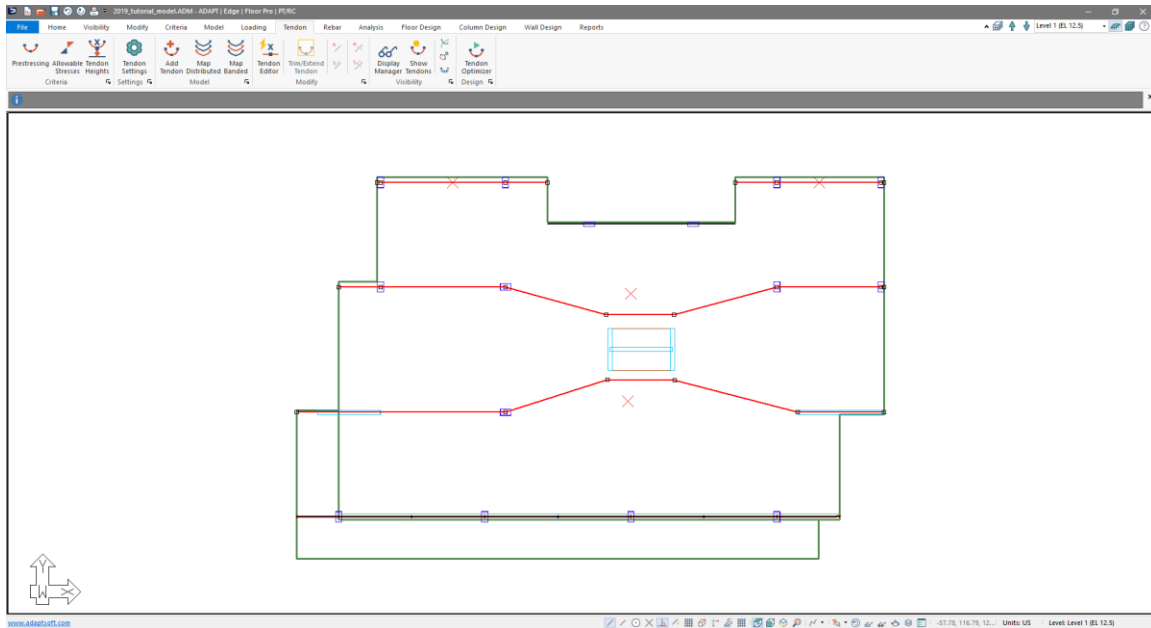

Figure 9-42
- Select the four support lines shown selected by left-clicking on the first support line to select, then holding the **CTRL** key on your key board and click on the other support lines to be selected. When done you should have the same support lines selected as highlighted in red in **FIGURE 9-42**.